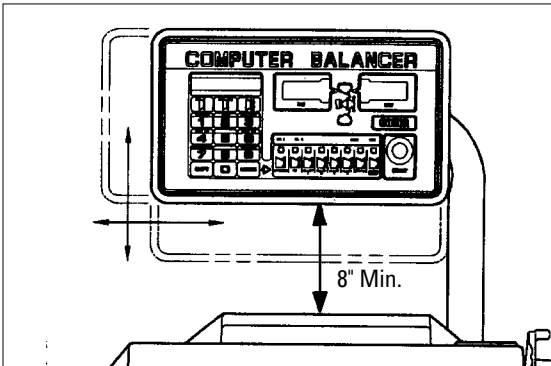

Figure 7 - Control Pod Height
20. Loosen the nuts on the support arm retainers. Raise or lower the control pod into the desired position, and tighten the retainer nuts securely. The bottom edge of the pod should be at least 8 inches above the top of the balancer (Figure 7).